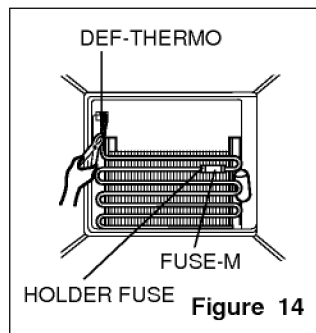

Figure 14
2. Separate the connector connected with the Def Control Assy and replace the Def Control Assy after cutting the Tie Wrap. (Figure 14)